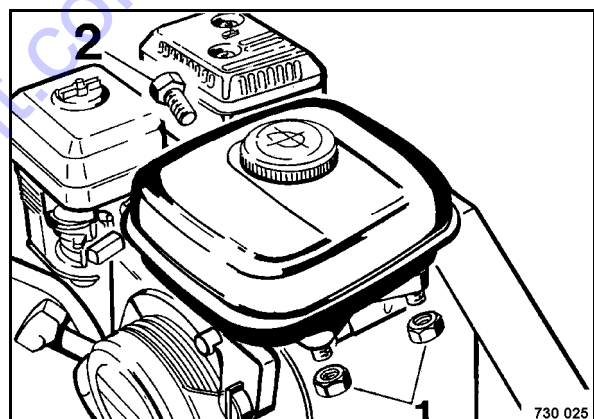

Fig. 66
- Unscrew the hexagon nut (1) (Fig. 66) and the hexagon screw (2) and take off the fuel tank.